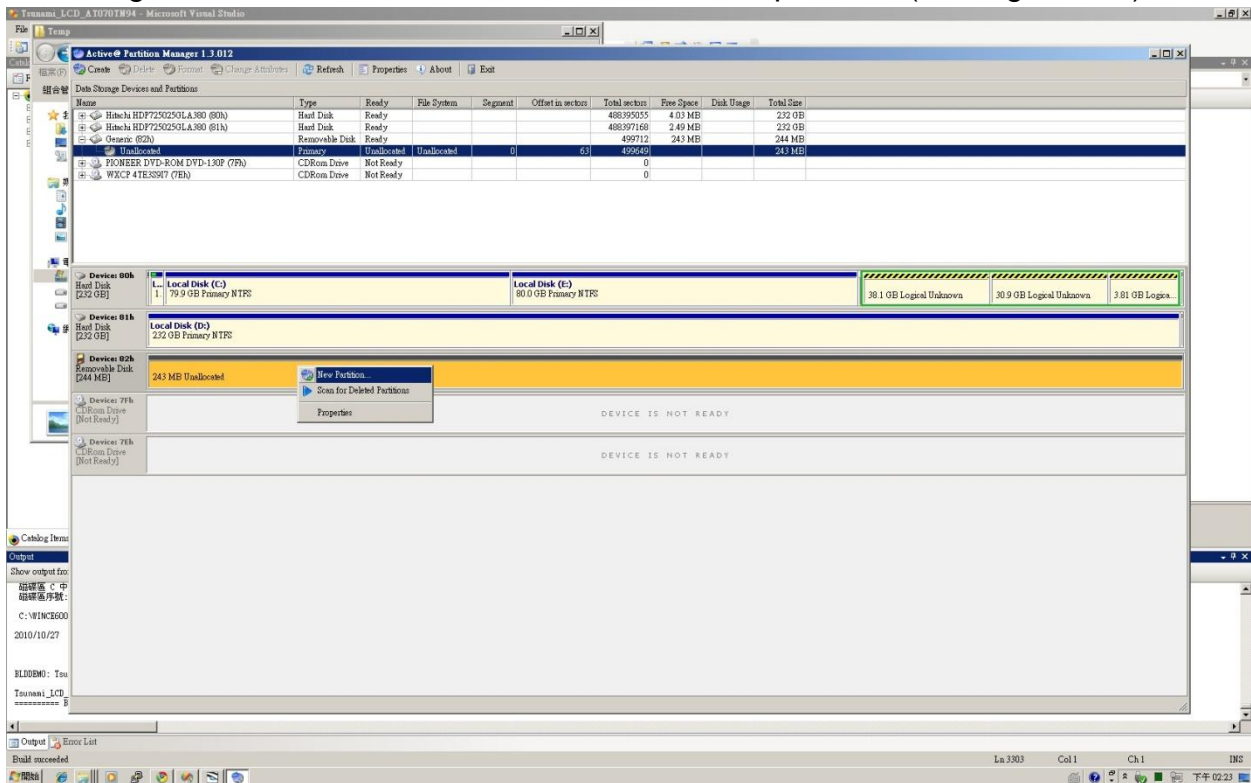

Figure 123
- Right click on removable disk and choose “new partition” (see Figure 123)